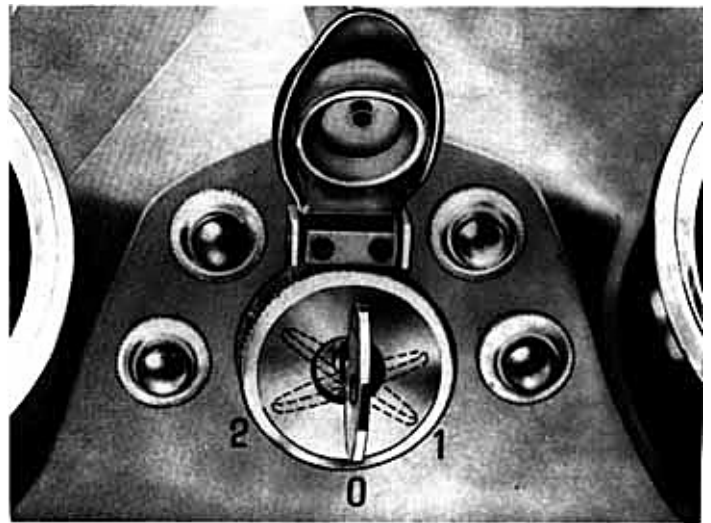

Fig. 7
IGNITION KEY (FIG. 7)
- «2» Running position or machine ready to set out. All controls on. For daylight driving no other position necessary. For night driving levers A and B on the left handlebar must be switched on (Fig. 7).